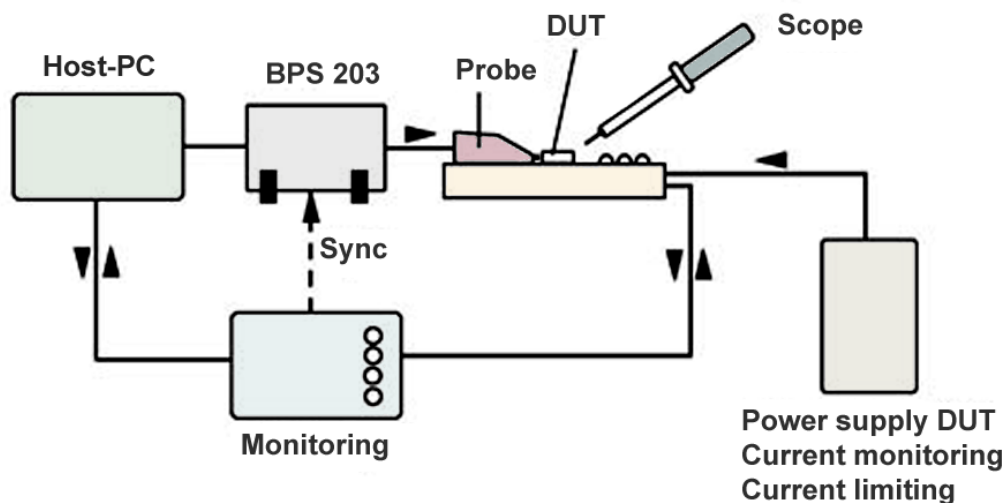

Figure 1 – Components of a potential measurement setup
Figure 1 shows the interaction of the individual components in a potential measurement setup.
The BPS 203 is used as a high-voltage power supply and control unit for the whole range of ESD probes. The components are set up according to Figure 1 with the P331 ESD generator as an example. The GND 25 ground plane and corresponding adapter are not included in the scope of delivery. A PC is used to control the measurement system via a USB interface and the BPS 203-Client software (not shown in the figure). The BPS 203 generates a high voltage (up to 9.5 kV). The unit supplies this to the probe via the HV cable and controls the respective probe connected to the system via the control cable.
1. P331 and P331-2: The P331 probe is used to inject steep-edged ESD pulses into interface coupling networks (Ethernet, LVDS, USB, ...). The pulses can also be injected directly into the pins of an IC. The IC may be destroyed if a pulse is injected directly into a pin! Figure 1 shows a measurement setup with the P331 probe.